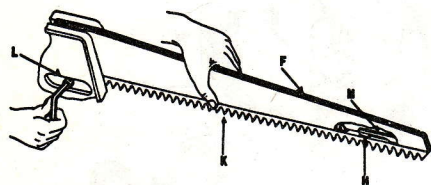

Fig. WR10-Wright saw blade and guide showing principal components. Guide keys (H) are spot welded to guide (F) on inside of blade slot.
PINCHING. Never pry the blade out of a pinch. Use a wedge, if necessary, to free blade and guide. Prying can break the blade or loosen guide keys (H—Fig. WR10), resulting in subsequent breakage.
LOOSE BLADE SCREW. Keep the blade driving screw (L—Fig. WR10) as tight as possible, using the long shank Allen wrench which is a part of the saw tool kit. A loose screw can cause metal fatigue and blade breakage.
DAMAGED GUIDE. Loose or missing retaining keys (H—Fig. WR10) will cause blade breakage. Guide keys are spot welded in guide slot. Renew the blade guide if defects are suspected.
REMOVE AND REINSTALL. To remove the saw blade, remove driving screw (L—Fig. WR10). Slide blade forward until free of coupling piston and guide keys (H); then lift blade from guide slot.